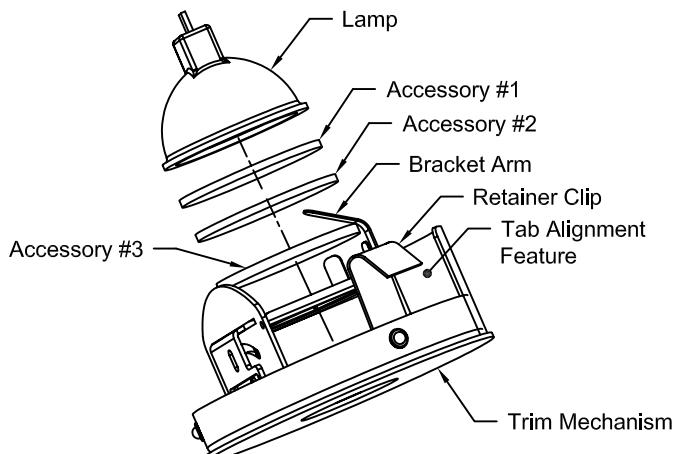
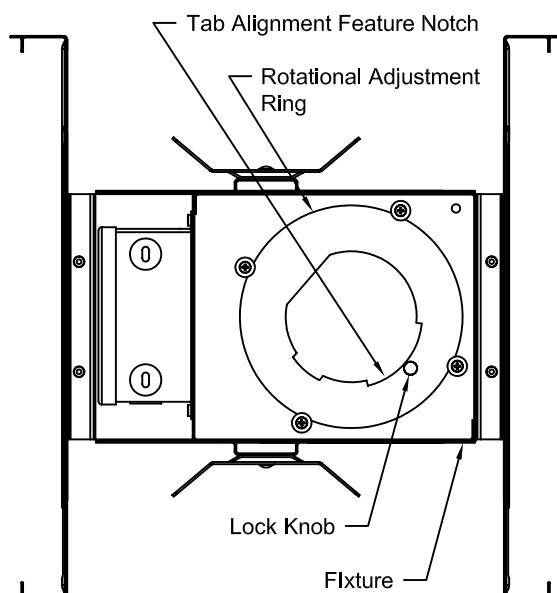

Figure 3
Figure 5
*Lamp Bracket accommodates from one (1) to three (3) accessories.
2. Slide out Lamp and/or Accessories from under Bracket Arm to remove. See Fig. 3.
4. To ensure original light beam placement, align Tab Alignment Feature on Trim Mechanism (See Fig. 3 & 4) with Tab Alignment Feature on Rotational Adjustment Ring inside Fixture (See Fig. 5).
1. With power ON and Trim Mechanism in place, Insert Phillips Head Screwdriver through Hole or Slot in Trim into Bearing Funnel. See Fig. 5.
2. To re-aim Lamp, turn #6-32 Flathead Screw to desired position using visual Angle Indicators on Banana Bracket. See Fig. 5.
3. Tighten Lock Knob inside Fixture to lock Rotational Adjustment Ring. See Fig. 5.